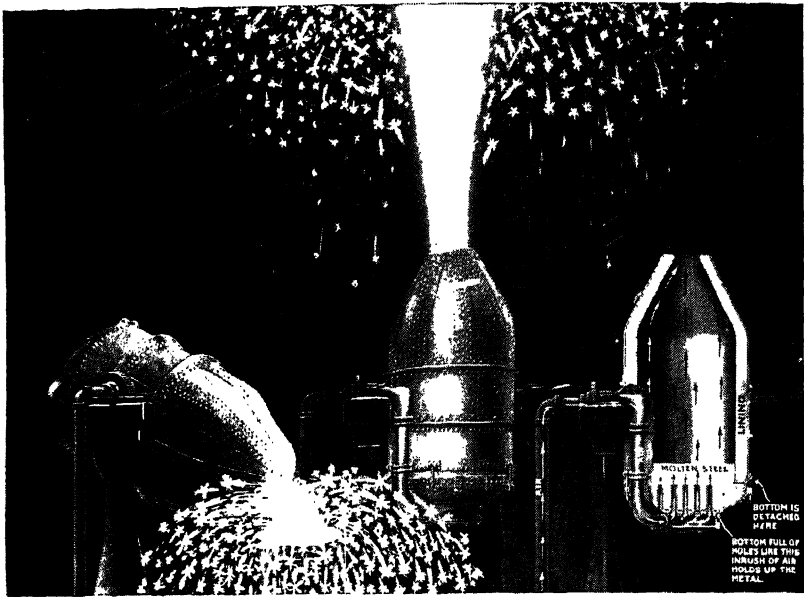

Fig. 262. Three views of a Bessemer converter: left, tipped; center, in action; right, cross section
**Bessemer Process of Making Steel.** The molten pig iron from the blast furnace may be poured into a pear-shaped vessel called the Bessemer "converter" (see Fig. 262). This vessel is made of steel and is lined with thick firebrick. It is about 12 feet in diameter, 20 feet high, and mounted on pivots called "trunnions," so it can be tipped to receive molten iron and to discharge molten steel at its mouth. When a charge of molten pig iron is added, a current of air is forced up through the hot mass. The molten pig iron covers the bottom of the converter to a height of 18 inches. The air has a pressure of about 20 pounds per square inch, and causes the hot metal to boil and burn vigorously. This boiling removes the impurities (carbon, silicon, etc.) in about 10 minutes. The operator then tilts the converter and adds the necessary amount of carbon and other elements to make the kind of steel desired. The molten material is now finished steel and is poured out by tipping the converter. It is poured into large ladles and cast into ingots of suitable size for handling. By this method it takes only from 10 to 15 minutes to change 15 tons of pig iron to steel.